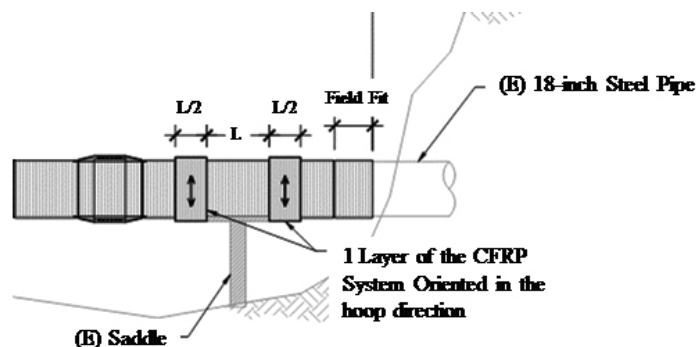
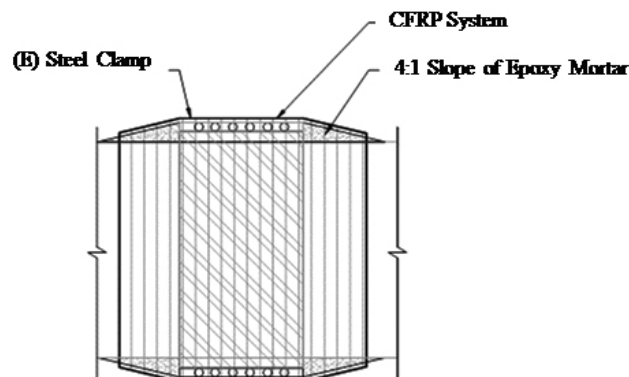

Figure 3: Special Detailing at Saddle Locations
Figure 4: Special Detailing at Clamp Locations
Not only was it important to understand and identify the proper design requirements for the CFRP system, but it was also important to provide proper detailing for several components of the project: (1) saddle supports and (2) the exterior clamp used to stop previous leaking of the host pipe. Due to the height of the saddle supports (and project cost limitations), it was determined that the saddle supports could not be removed. This meant a special trim detailing was required at the saddle support locations to ensure the longitudinal forces were developed properly over the length of the pipe (see Figure 3). Even though the CIPP had already been installed and the risk of leak was non-existent, for ease of installation and keeping to the work schedule the clamp remained in place. The detail, shown in Figure 4, requires a ramp to be created with epoxy mortar to create a smooth transition for the CFRP system.